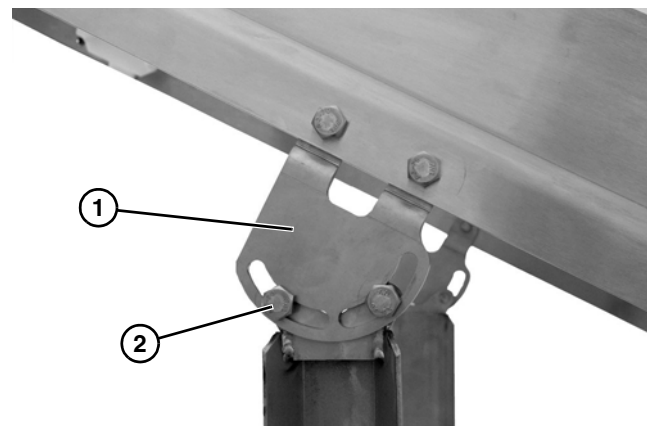

Figure 5
Failure to secure screws (Figure 5, item 2) may cause conveyor sections to drop down causing severe injury.
TIGHTEN SCREWS (Figure 5, item 2) AFTER ADJUSTMENT.
4. Adjust the bracket angle on the slotted brackets (Figure 5, item 1) to match the conveyor angle until the legs are vertical and tighten the bolts (Figure 5, item 2).